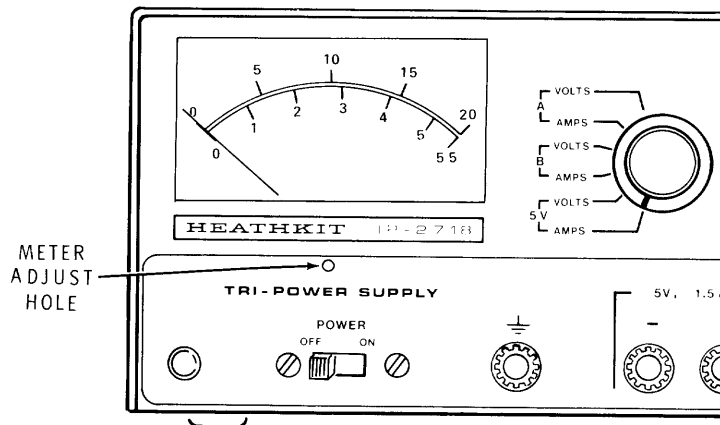

Figure 3
- NOTE: Refer to Figure 3 and perform the following step only if the meter pointer is **not** directly over the "0" (zero) on the meter scale.